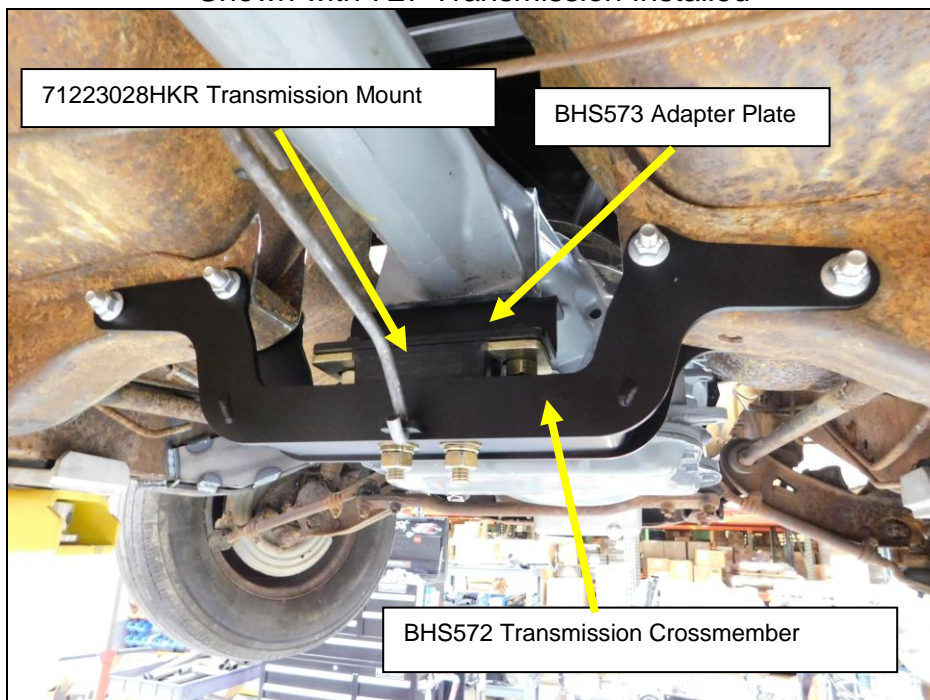

Figure 1
**NOTE:** The Transmission Mount will be installed between the Adapter Plate and the **BHS572** Transmission Crossmember (**Fig. 1**).